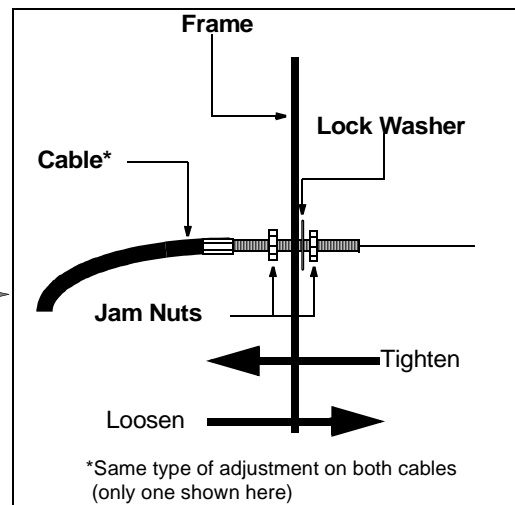

Figure 9
Adjustment to the brake pedal is made at the cable end. See Figure 9 .
- Locate the brake cable on the right side under the front housing. See Figure 9 .
- Using a pair of 1/2" wrenches, loosen the jam nuts and back the cable out to tighten or thread inward to loosen. See Figure 9 inset.
Adjustment to the "Go" Pedal is made at the cable end. See Figure 9 .
- Locate the speed control cable under the front housing. See Figure 9 .